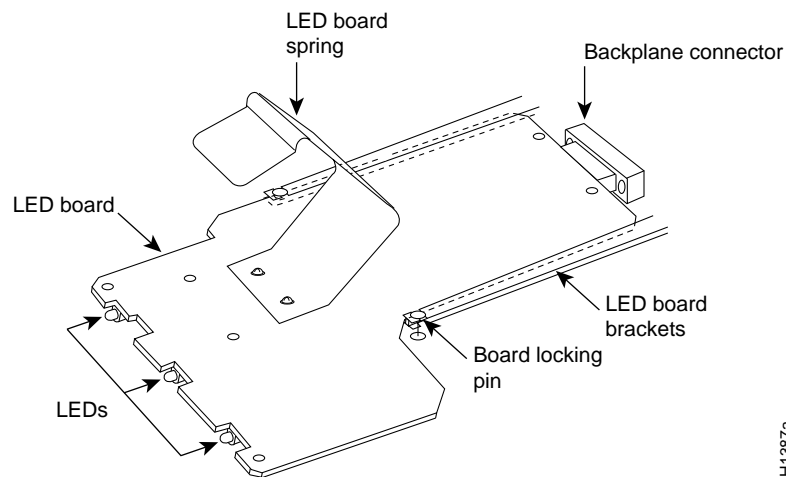

Figure 4 LED Board
Two pins in the brackets and a metal spring that butts up against the ceiling of the chassis keep the board in place (see Figure 4). You must remove the top front chassis panel to access the LED board. Carefully follow the top front chassis panel removal instructions to avoid damaging the LEDs or the LED board.
- Step 5:** Two steel pins near the front of the brackets hold the board in place (see Figure 4). On each pin, place your thumb on the top of the pin and your forefinger underneath the bracket to support it, and press the pins down and out of the guide holes in the board.
- Step 2:** Hold the board with the LEDs toward you, with the spring on the top, and with the LEDs and components on the underside of the board. Grasp the edges of the board and place a finger on the top of the LED board spring to depress it (see Figure 4).
- Step 3:** Slide the back edge of the board (the end with the connector) into the guides in the plastic brackets (see Figure 4).
- Step 6:** A steel pin at the front of each bracket holds the board in place (see Figure 4). On each side, place your thumb underneath the pin and your forefinger on top of the bracket to support it, and press the pin up through the guide in the board. If the pin does not extend fully upward, push the board firmly into the backplane connector until the pins align with the guide holes in the board.